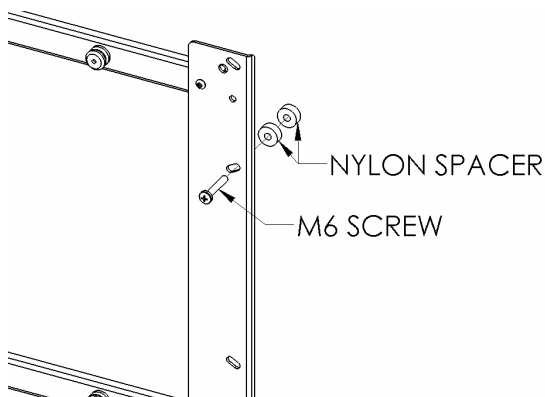
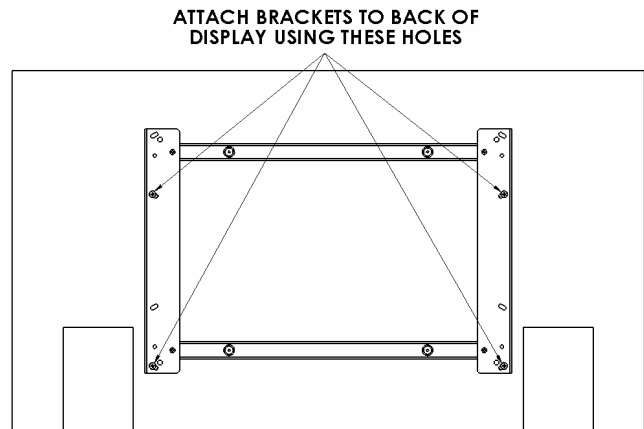

Figure 6
Figure 7
- Place nylon spacers over the mounting holes on back of screen. Attach mounting brackets to display using the M6 screws (see Figure 6 & Figure 7). If the shape of the display allows, use the shorter screw and only one spacer per hole.